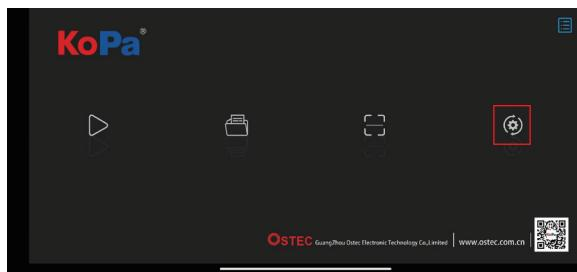
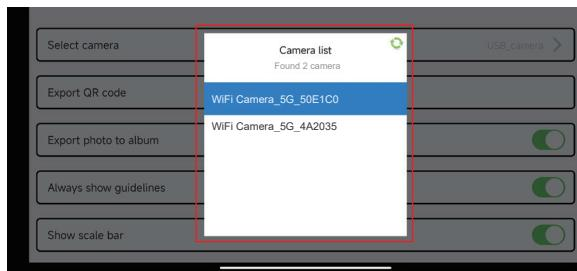

Figure 1
Figure 3
- (1) Connect the cell phones or tablets that supports 5G WiFi IEEE802.11ac protocol to the same local area network as the camera.
- (2) Install and run the App KoPa WiFi Lab on the cell phones or tablets, enter the navigation interface and click the " ▶ " button.
- (3) When there is only one network camera in the local area network, the App can automatically get the live image from the camera.
- (4) When there are multiple network cameras in the same local area network, click the icon "  " in the navigation interface (Figure 1), pop-up menu (Figure 2). The list automatically shows all cameras in the current local area network (Figure 3), select a camera as needed, support switching midway at any time.